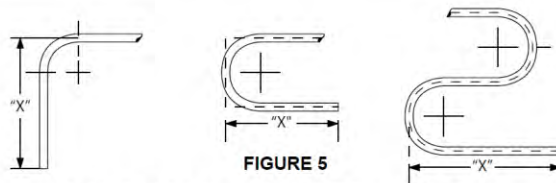

FIGURE 5
4. If more than one bend is required (Fig. 5), measure from the center line of the first bend leg and mark per drawing dimension. Proceed with bend as described in Step 2.